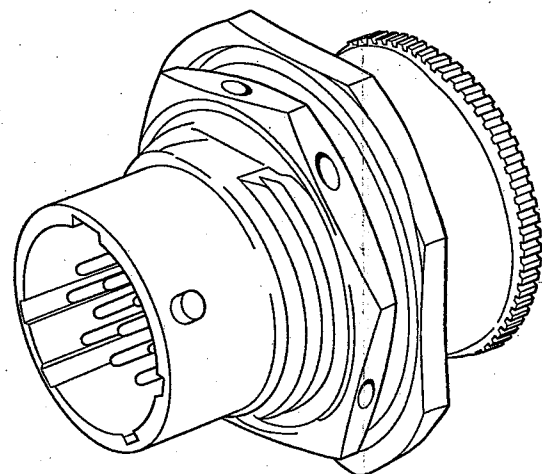

Fig 14 467 Jam nut receptacle, general view
12.1 The 467 jam nut receptacle (Fig 14) with crimped type contacts conforms to MS3124 specification and is single hole panel mounted.